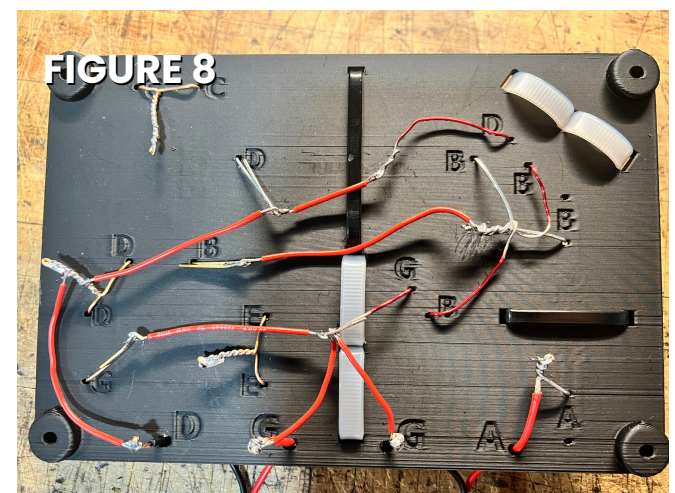

FIGURE 8
3. Secure the components to the board with the supplied zip ties (*figure 8 - 9*).